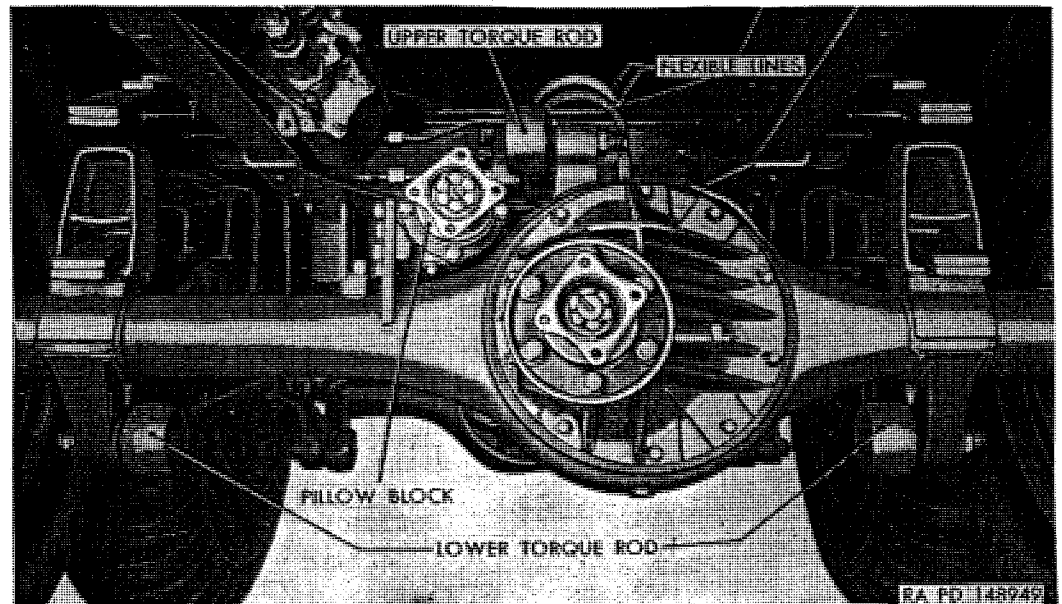

Figure 236. Forward rear axle installed.
c. *Removal* (fig. 236).
- (1) *Position vehicle.* Place vehicle on a level surface and block front wheels to prevent vehicle rolling. Place a jack under axle and raise vehicle until tires are off the ground.
- (2) *Remove wheels.* Remove wheels and tires from each side (par. 259b).
- (3) *Block vehicle.* Place blocks under torque rod support bracket at spring seat on each side to support vehicle after axle is removed.
- (4) *Disconnect flexible hose.* Disconnect hydraulic brake and axle vent flexible hose at junction block on top of axle housing.
d. Installation (fig. 236).
- (1) *Install pillow block.* Install pillow block on axle (par. 233c).
- (2) *Position axle.* Move axle into position under vehicle and engage main spring ends in openings in brackets at each end of axle housing.
- (3) *Connect torque rods.* Attach three torque rods to axle brackets by installing torque rod end pins in axle brackets. Install washer and 1-14 safety nut on each pin and tighten to 350 to 400 pound-feet torque.
- (4) *Connect flexible hose.* Connect hydraulic brake and axle vent flexible hose at junction on top of axle housing with two connector bolts and four new copper washers. Use one washer on each side of connector. Tighten connector bolts to 20 to 30 pound-feet torque.
- (5) *Connect propeller shafts.* Position respective propeller shafts to differential pinion flange and to each end of pillow block assembly, with lubrication fittings in same plane as other shafts; then install four bolts and $\frac{7}{16}$ -20 safety nuts at each location. Tighten nuts to 33 to 43 pound-feet torque.
- (6) *Install wheels.* Install wheels on hubs (par. 259c).
- (7) *Remove blocks and jack.* Raise vehicle with jack as necessary to remove block from under each torque rod support bracket at spring seat. Lower jack and withdraw from under vehicle.
- (8) *Bleed brakes.* Perform brake bleeding operation (par. 237).
- (9) *Lubricate.* Check lubricant level in axle differential (par. 224b). Lubricate propeller shaft universal joints and pillow block as directed on lubrication chart (par. 69).
- (10) *Check for lubricant leaks.* Check for lubricant leaks around housing cover. Tighten cover stud nuts to 45 to 55 pound-feet torque.